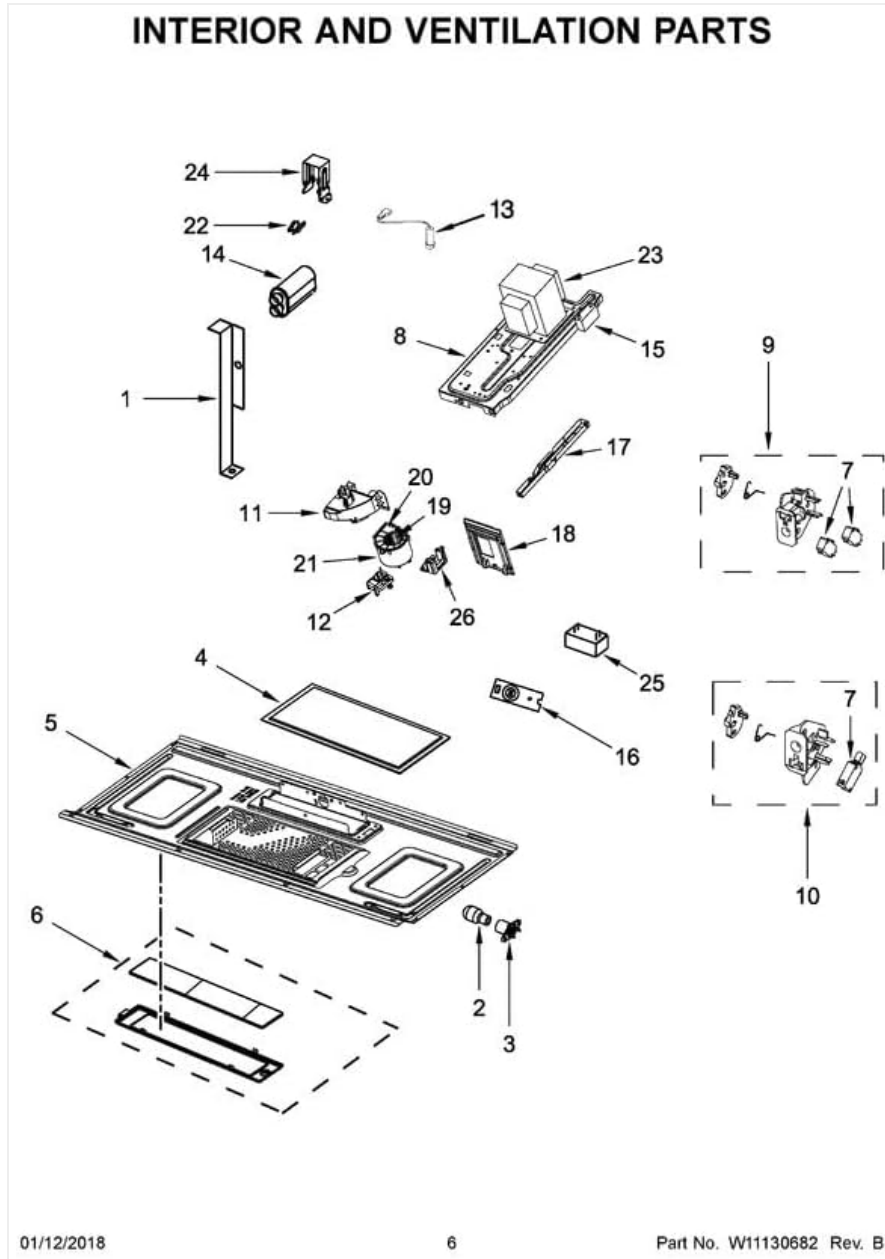

Figure 4: Exploded View of Interior and Ventilation Parts (Part 9 is the Upper Interlock Assembly)
- Locate the upper interlock assembly, usually positioned near the top of the microwave door frame, where the door latches. Refer to Figure 4, identifying Part 9.